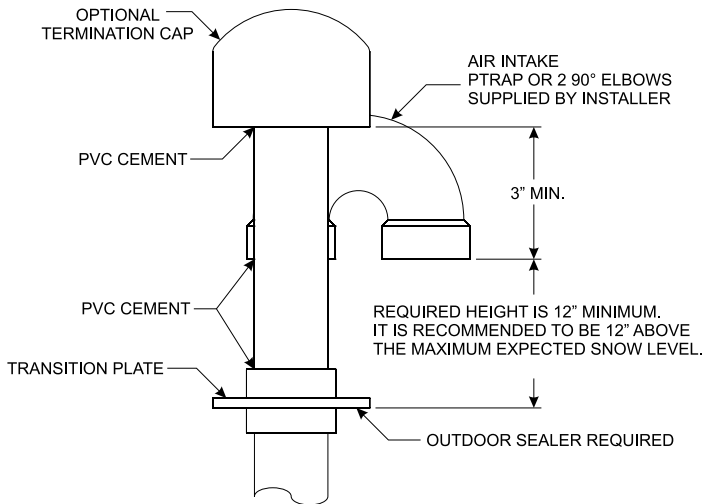

Figure 12
1. Attach the plate to chimney chase, flat roof, or outside wall with four (4) screws. Use outdoor sealant to seal the transition plate to the surface.
2. Cut inlet air pipe and flue exhaust pipe to correct lengths. For vertical terminations through the roof or chimney, the air intake and exhaust pipe termination must be a minimum of 12 inches above the roof line. It is recommended that the air intake and exhaust pipe termination be 12 inches above the maximum expected snow level. See Figures 12 and 13. When venting vertically, the exhaust pipe termination must be a minimum of 3 inches above the air intake. Also refer to local codes. For horizontal termination through outside walls, the minimum pipe length is 9 inches for exhaust pipe termination and 6 inches for the air intake.
In direct vent applications, the minimum distance between the two pipes is 3 inches and the maximum distance is 24 inches. The flue exhaust and air inlet can be terminated with either a PTrap or two 90° elbows as shown in Figures 12, 13, 14, 18 and 19. The Vertical Termination Cap shown on page 13 (Part number PVVTC) can also be used.